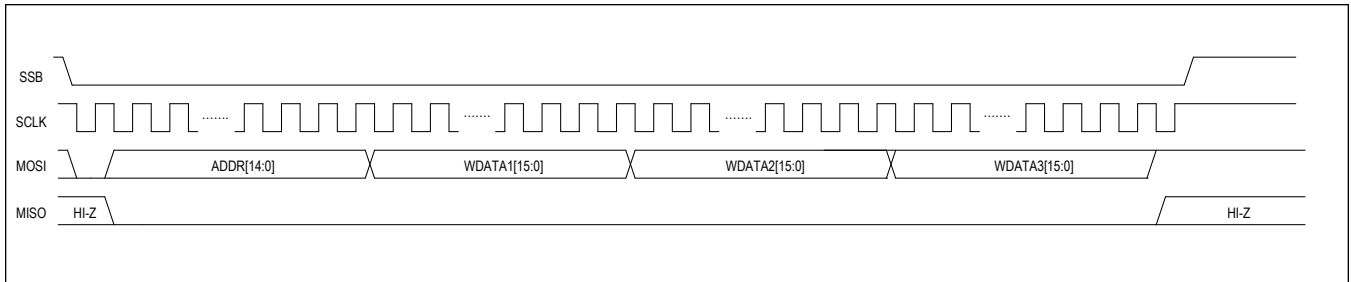

Figure 9. SPI Burst Write Diagram
The IC supports a Burst Write capability. As shown in Figure 9, the host processor sends a write bit (0), followed by a 15-bit address. Afterwards, the host processor can continue to send 16-bits of data to the IC, which auto-increments the register address and writes the data to subsequent register addresses. The exception to this is the FIFO\_WRITE\_PORT register. For this register, the purpose is to continuously write data to the FIFO, so the auto-increment feature is disabled when burst writing to this register.